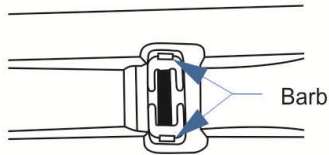

Fig 5.15
5.3.4 Separate the harness fixer from the seat (As fig 5.15)